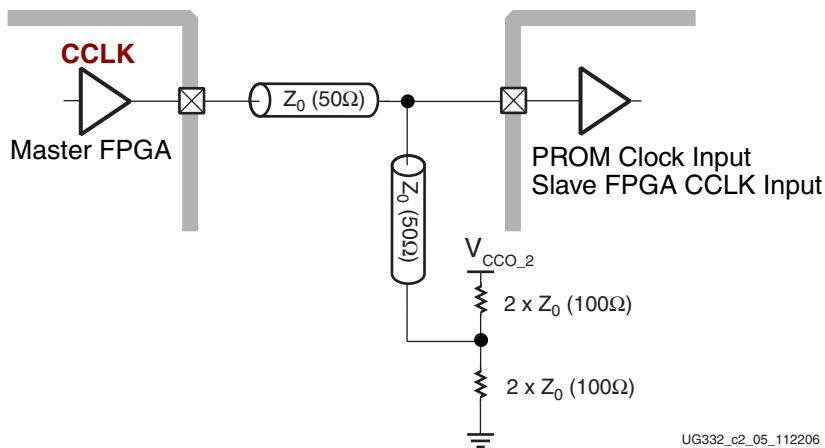

Figure 2-3: **Point-to-Point: Master CCLK Output Drives Single Clock Load**
**Figure 2-3** shows the basic point-to-point topology where the CCLK output from the Master FPGA drives one clock input receiver, either on the configuration PROM or on a slave FPGA.